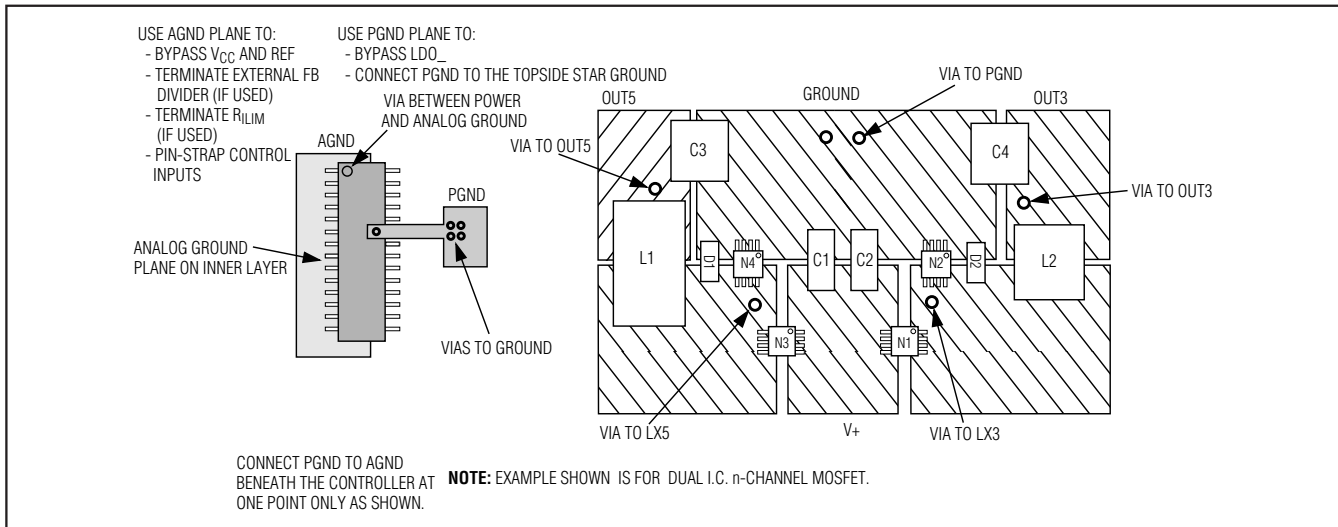

Figure 13. PC Board Layout Example
Careful PC board layout is critical to achieve minimal switching losses and clean, stable operation. This is especially true when multiple converters are on the same PC board where one circuit can affect the other. The switching power stages require particular attention (Figure 13). Refer to the MAX1999 EV kit I.C. data sheet for a specific layout example.
- 4) Make the DC-DC controller ground connections as follows: near the device, create a small analog ground plane. Connect the small analog ground plane to GND (Figure 13) and use the plane for the ground connection for the REF and V_{CC} bypass capacitors, FB dividers, and ILIM_+ resistors (if any). Create another small ground island for PGND, and use the plane for the V_+ bypass capacitor, placed